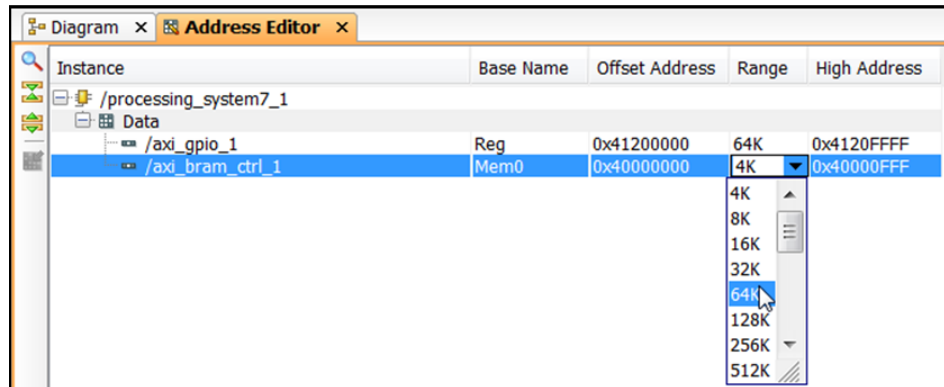

Figure 21: axi_bram_ctrl to 64k Range
7. Change the range of the AXI BRAM Controller to **64K**, as shown in FIGURE 21.